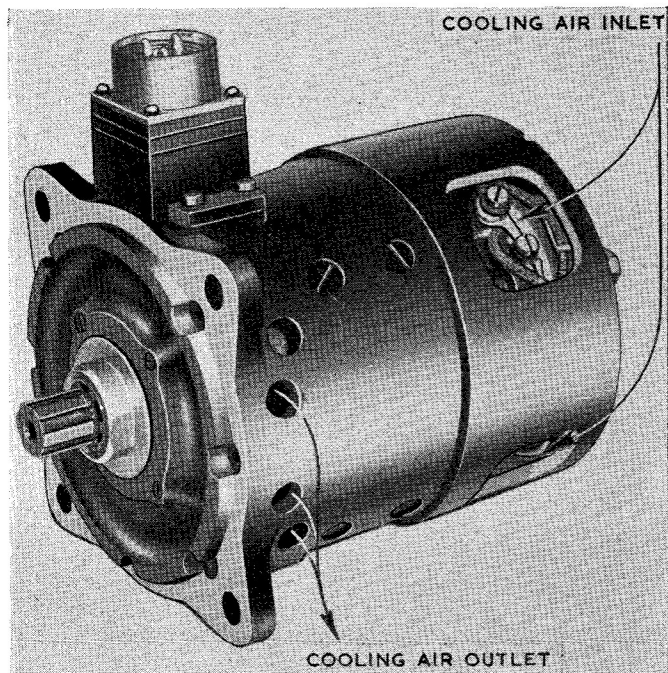

Fig. 1. Generator, Type B2005
1. This generator (fig. 1) is generally similar to others in the B2005 series, but, in addition, has a fan assembly built on to the commutator end, the generator itself having an extended armature shaft at the commutator end for that purpose. The fan assembly provides suction for instruments such as the directional gyro and artificial horizon, and also circulates cooling air through the generator. Information on the fan assembly will be found in A.P.1275A, Vol. 1, Sect. 27.